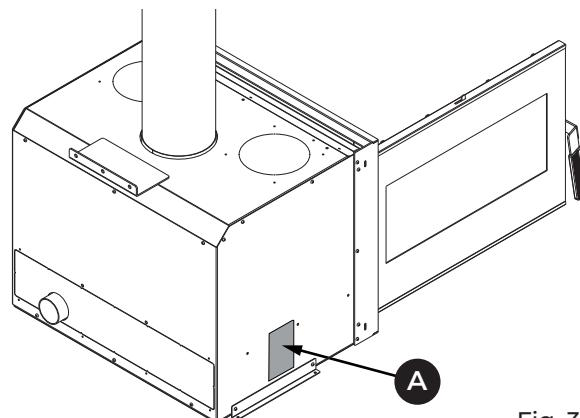

Fig. 3.1
The serial identification plate (A) is positioned on the side (Fig. 3.1) and shows all the characteristic data relating to the appliance, including details of the Manufacturer, the Serial number and the